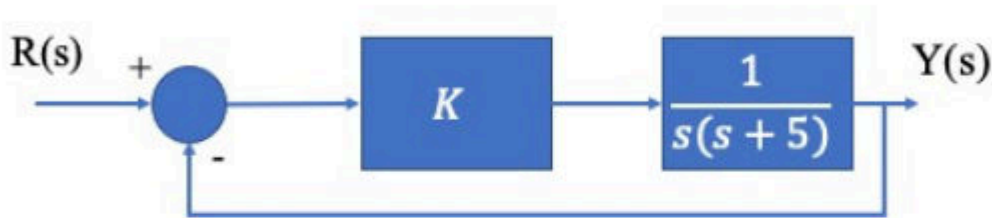

Figure 8: Unity feedback system for Q8.
9. Q9. For the unit feedback system shown in Fig.8, Which is the gain K of the proportional controller so that the output $y(t)$ has an overshoot of no more than 12% in response to a unit step?